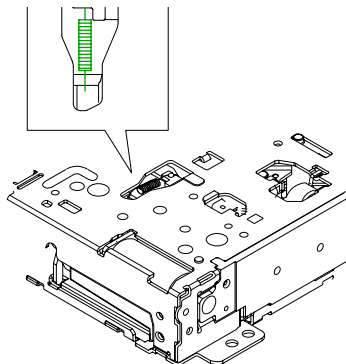

Fig.5
(6) From the bottom side, remove the spring from Traverse mechanism assembly. (See Fig.5)